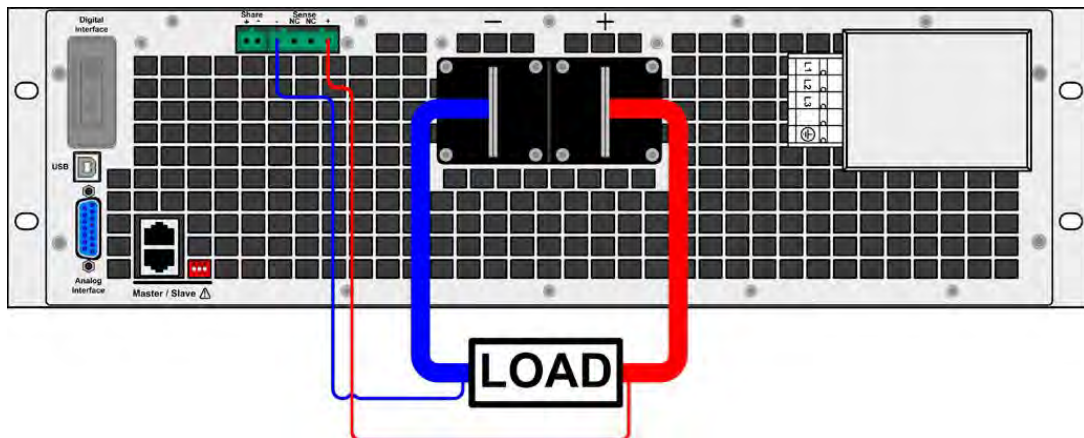

Figure 5-8: External Voltage Sense Connection – 15kW or less
- The positive (+) sense cables must be connected to the positive terminal (+) on the load and negative (-) sense to the negative terminal (-) at the load, otherwise the sense input stage of the power supply can be damaged by the reversed polarity. See Figure 5-8 below for proper polarity.